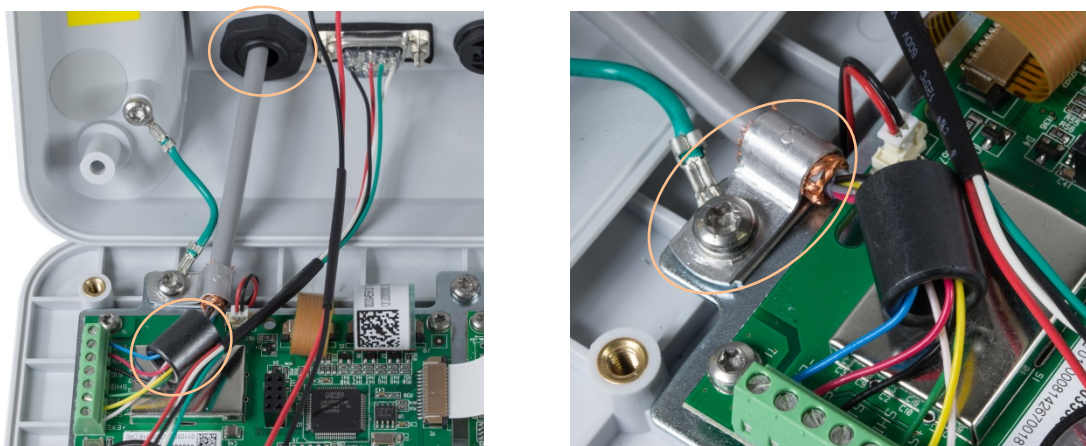

Figure 2-23: Analog Load Cell Cable Ferrite Installation and Chassis Grounding, IND231
1. The load cell cable enters the housing through the cable gland indicated in Figure 2-23.
4. The grounding clip supplied with the terminal is used to connect the exposed shield (Figure 2-22) to the metal mounting plate using the enclosure hinge wire attachment screw, as shown in Figure 2-23.